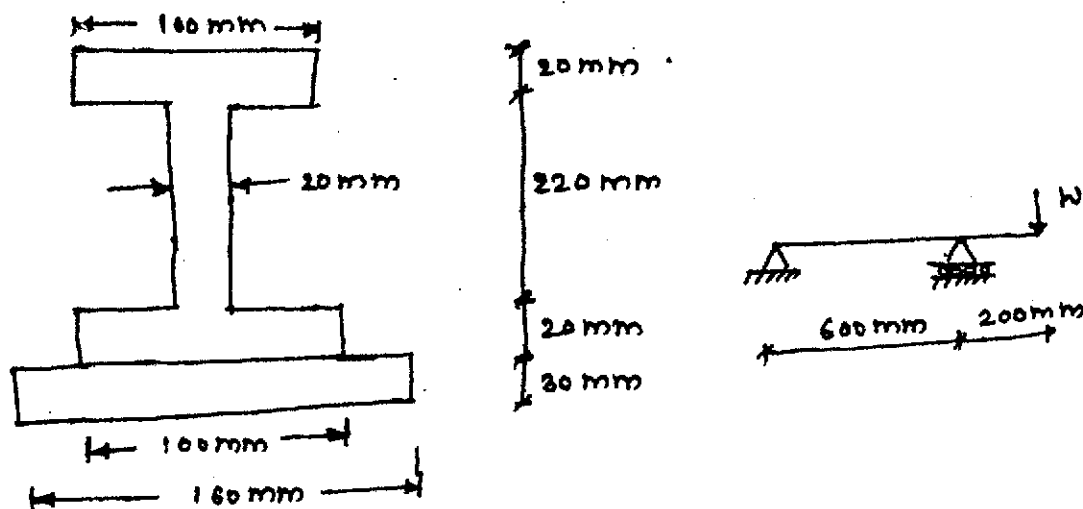

Fig. 10
- (b) A simply supported beam with overhang is loaded with point load as shown in Fig. 10. The cross-section of beam is I-section. The allowable bending stresses in tension and compression are $\sigma_t = 150$ MPa and $\sigma_c = 100$ MPa. Find the safe load 'w' on the overhang. [10]